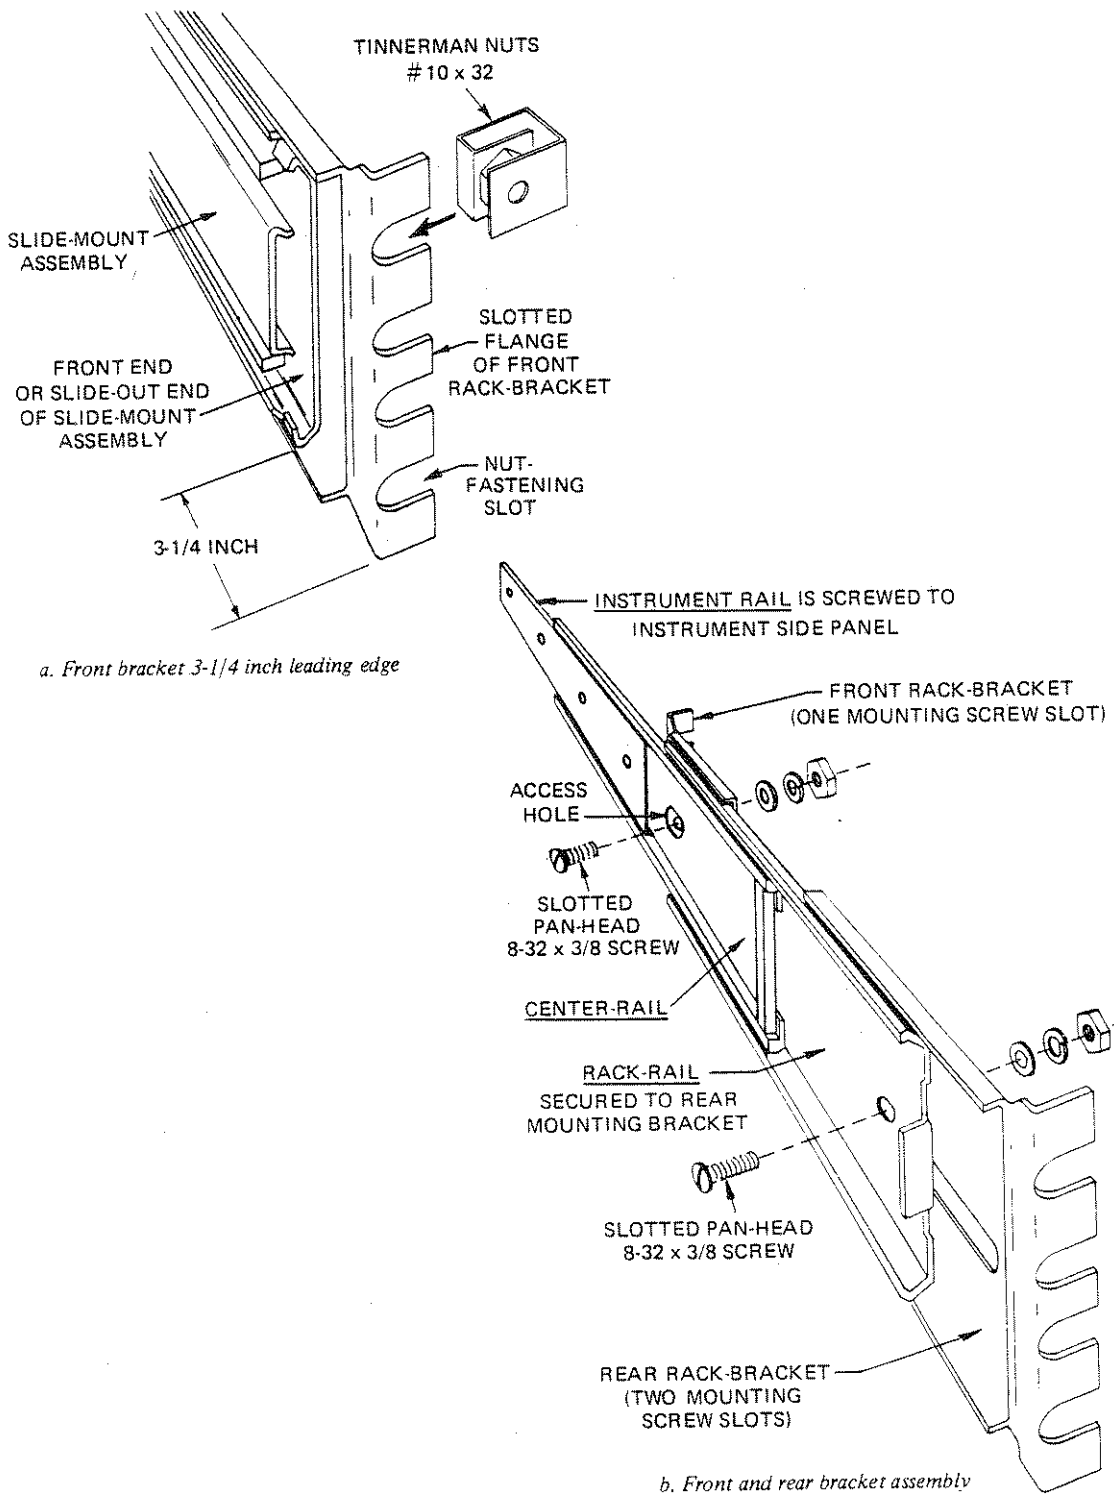

Figure 2-7A,B - Slide-Mount and Bracket Assembly
- a. Front rack-brackets (2); part of P/N 454488
- b. Rear rack-brackets (2); part of P/N 454488
- c. Triple-rail slide-mount assemblies (2); P/N 454489
- d. Self-anchoring #10-32 tinnerman nuts (12); P/N 610920
- e. Phillips panhead #10-32 x 1/2 screws (8); P/N 615091
- g. Phillips panhead self-tapping #8-32 x 5/16 screws (4); P/N 610910
- h. Phillips panhead #10-32 x 3/4 screws (4); P/N 615093
2.7.2.2 Refer to Figure 2-7A/B. Prepare the triple-rail slide-mount assembly for equipment rack installation. First, note that the instrument-rail and rack-rail holes are accessible either directly or through the enlarged holes in the center-rail (as the assembly is extended or retracted). Complete the following procedure: